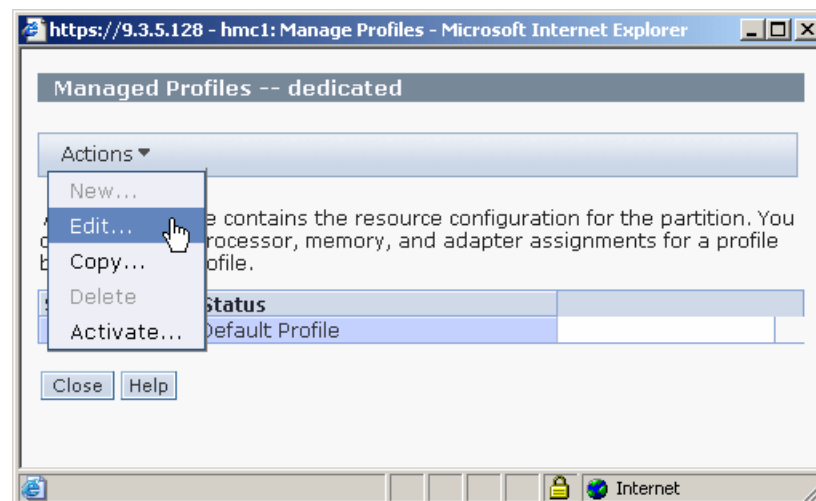

Figure 13-14 The edit Managed Profile window
3. Select a profile and click **Actions** → **Edit** as shown in Figure 13-14.